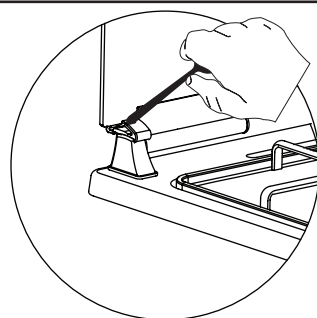

Figure 3
- 3.** As shown in figure 3, the glass door can be closed by pressing the plastic clip with the help of a spoon.